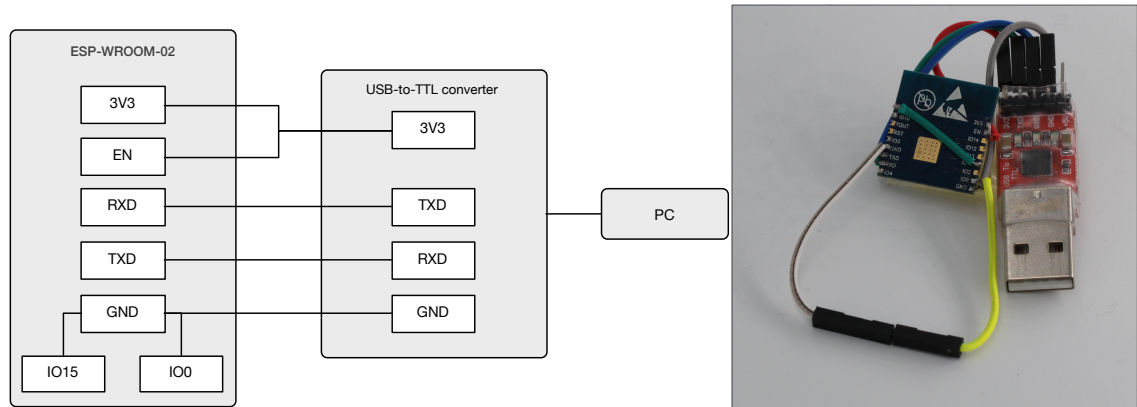

Figure 2-1. ESP-WROOM-02U Download Mode
2. Connect ESP-WROOM-02U to the USB-to-TTL converter, using Dupont lines, as shown in Figure 2-1.